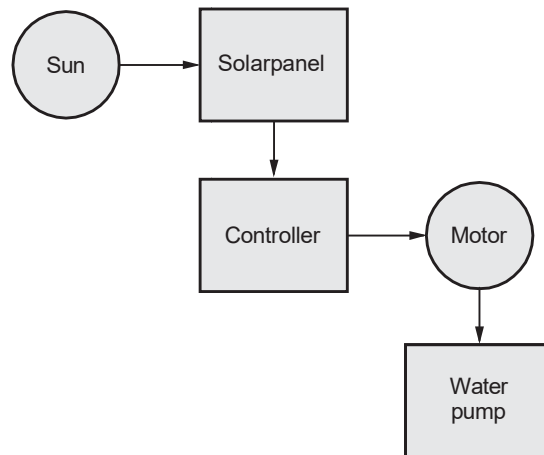

Fig. 2.20.1 Block diagram of solar pump
- Fig.2.20.1 shows block diagram of solar pump